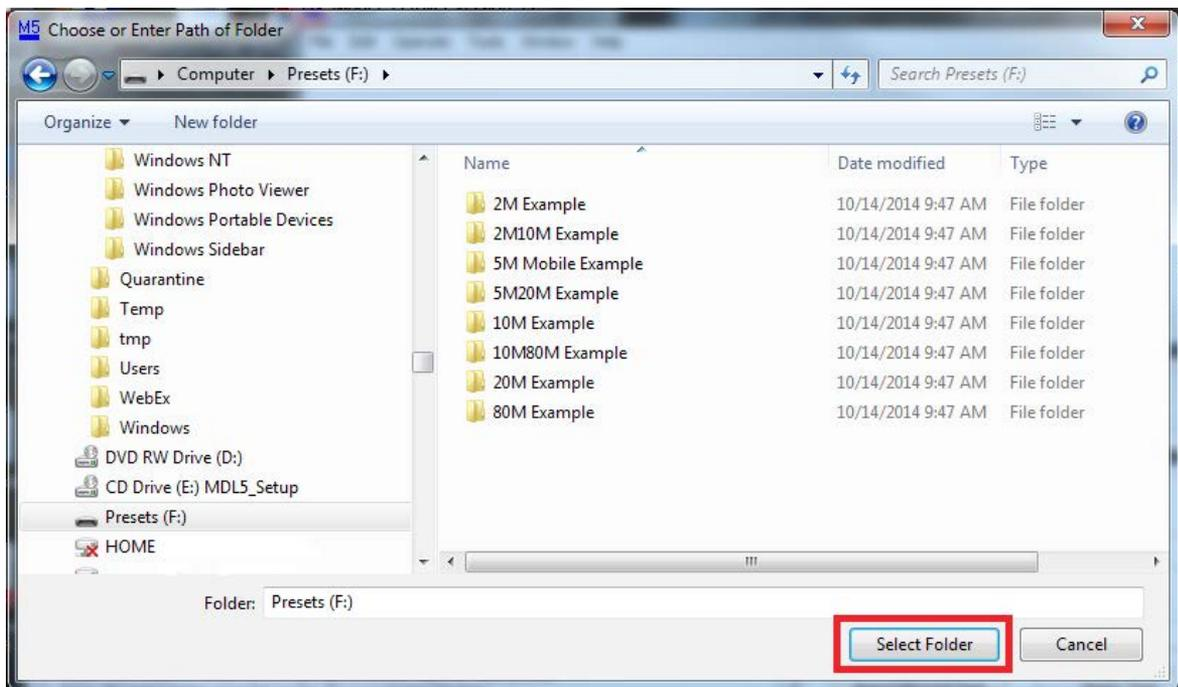

Figure 50: “Current Folder” Location
3. Within the “Presets” folder, there will be another folder labeled with the Prover ID. It is possible for multiple folders to be present. In the bottom right hand corner, click “Current Folder” as shown in **Figure 50**.